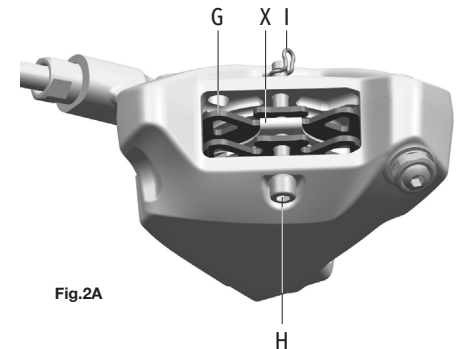

Fig.2A
- Pad (G - Fig.2A)
- clip (X - Fig.2A)
- Brake pad locking screw (H - Fig.2A)
- Brake pad screw cotter pin (I - Fig.2A)